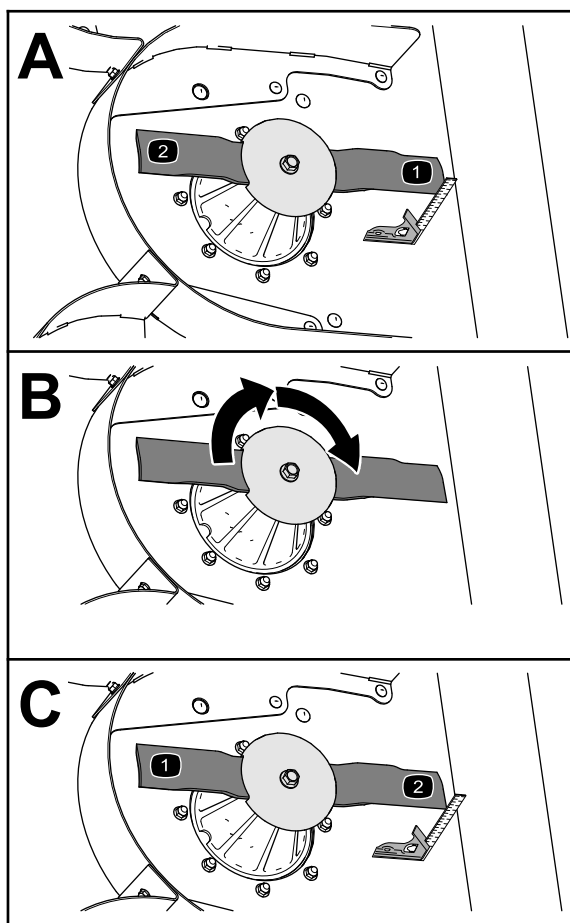

Figure 72
3. Use a combination square to measure the distance between the clean area of the deck and the tip of the cutting edge (Figure 72).
4. Rotate the blade 180° (Figure 72).
5. Measure the distance between the clean area on the deck and the tip of the cutting edge (Figure 72).